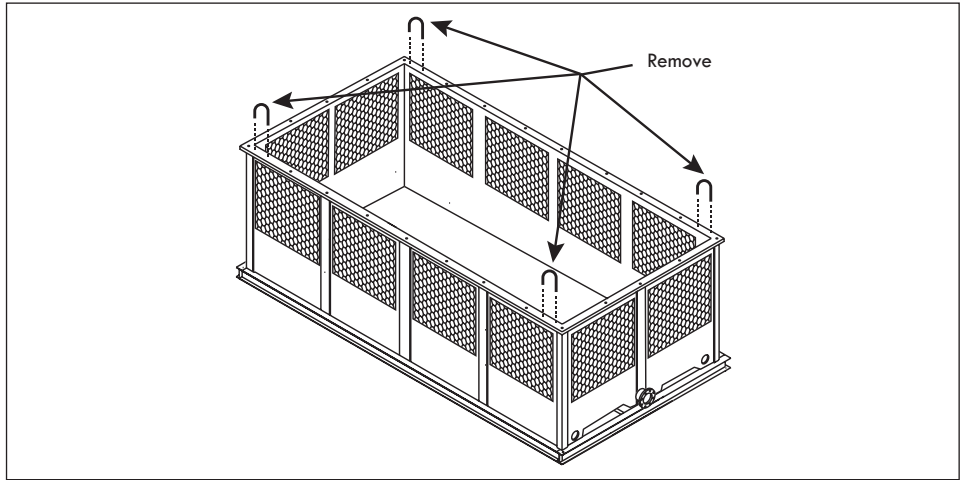

Figure A-16: Removing U-bolts from basin for a Double Fan Tower
G. After the basin has been set in place, remove the U-bolts located on the flange before installing the next section (see Figure A-16).